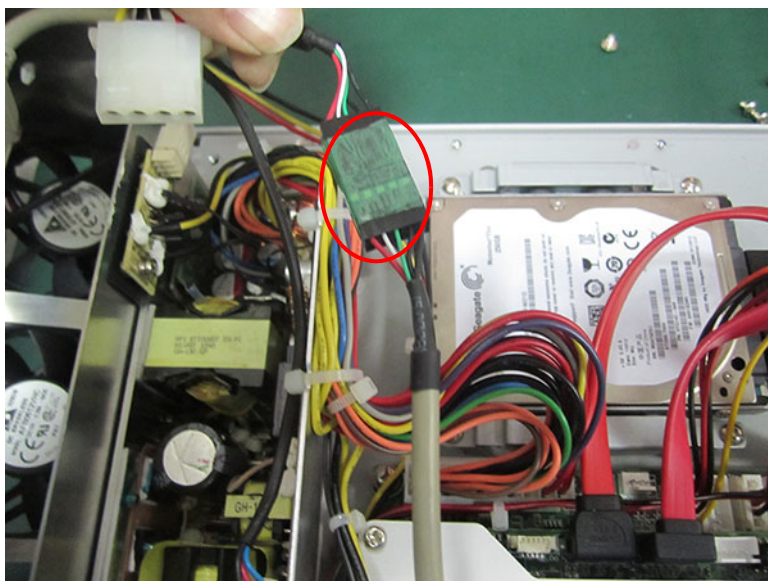

Figure 2.36
6. Connect the USB cable. (See Fig2.36)